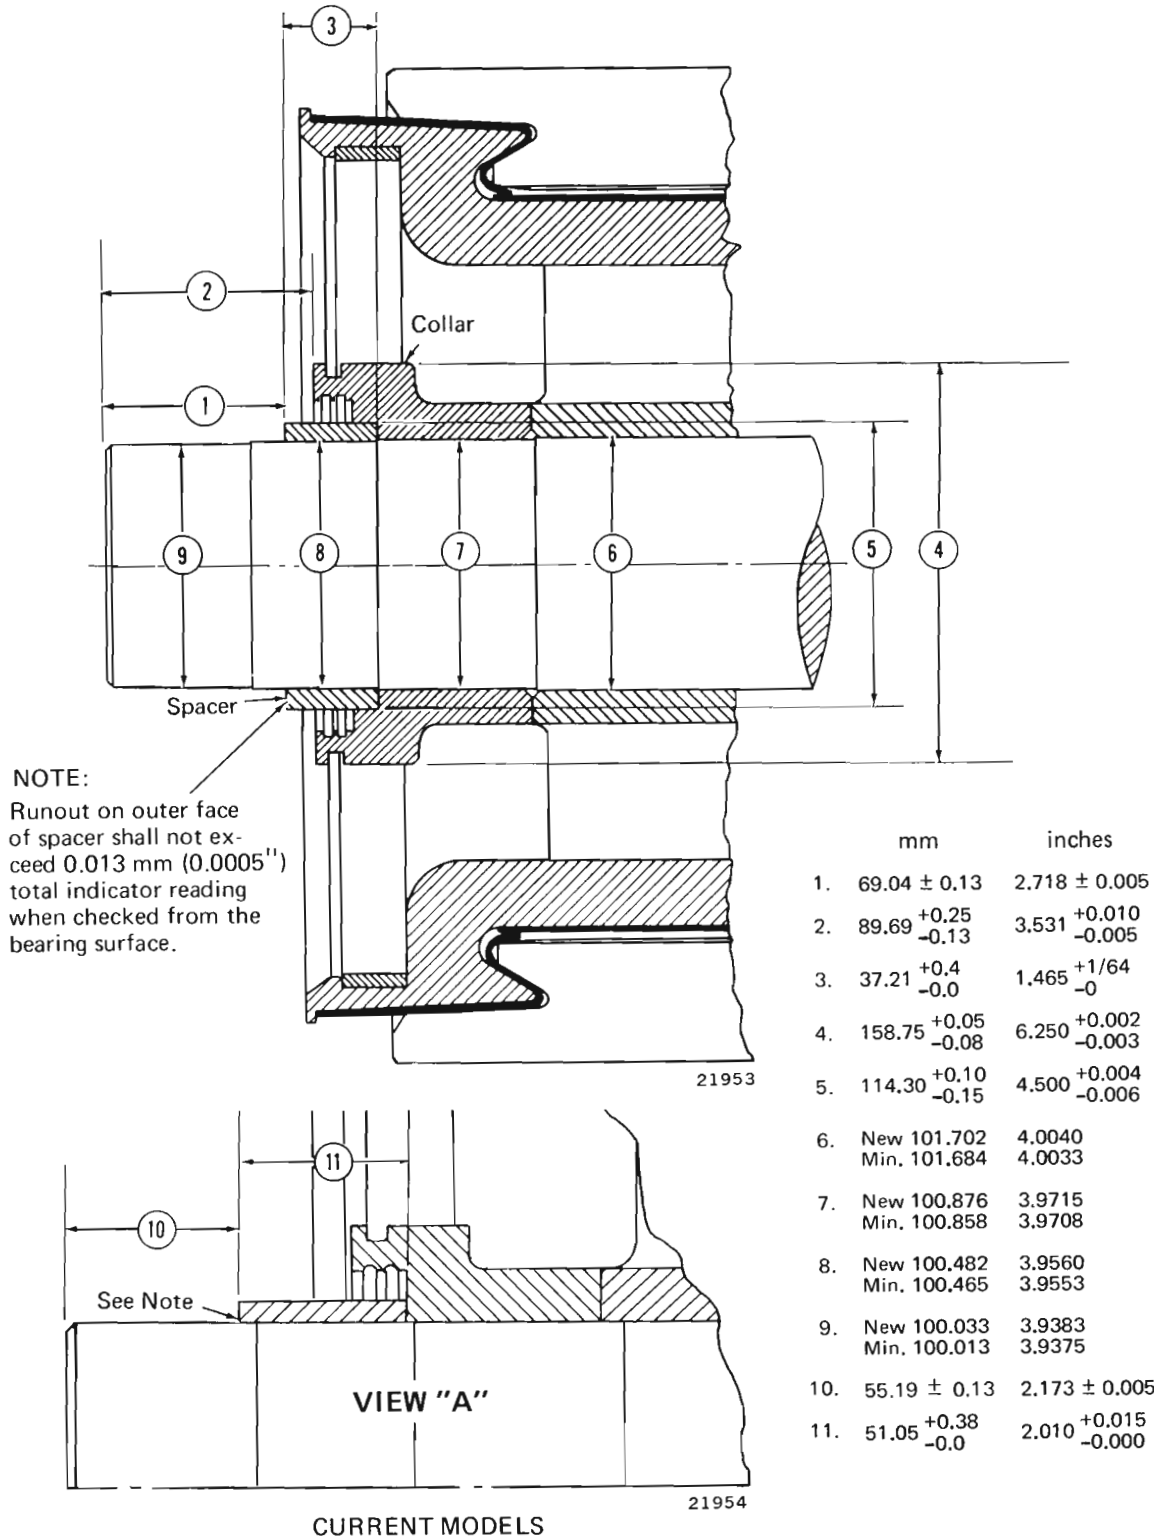

Fig. 3 - Armature Shaft - Commutator End
1. Inspect the commutator end bearing seat diameter, Fig. 3. Bearing seat diameter of a new shaft is 100.033 mm (3.9383"). Minimum rebuild tolerance is 100.013 mm (3.9375").
2. Inspect the commutator end spacer and collar outside diameters, Fig. 3. Outside diameter of the spacer should be between 114.15 mm and 114.40 mm (4.494" and 4.504"). Outside diameter of the collar should be between 158.50 mm and 158.80 mm (6.240" and
On units with a 37.21 mm (1.465") spacer, Fig. 3, the dimension should be 69.04 mm  $\pm$  0.13 (2.718"  $\pm$  .005).
On units with a 51.05 mm (2.010") spacer, View A - Fig. 3, the dimension should be 55.19 mm  $\pm$  0.13 (2.173"  $\pm$  .005).
4. Check the dimension from the commutator end collar face to the end of the shaft, Fig. 3. The dimension should be between 89.81 mm to 89.94 mm (3.536" to 3.541"). This dimension is required to ensure free movement of the bearing parts and a tight fit of the bearing race on the shaft.